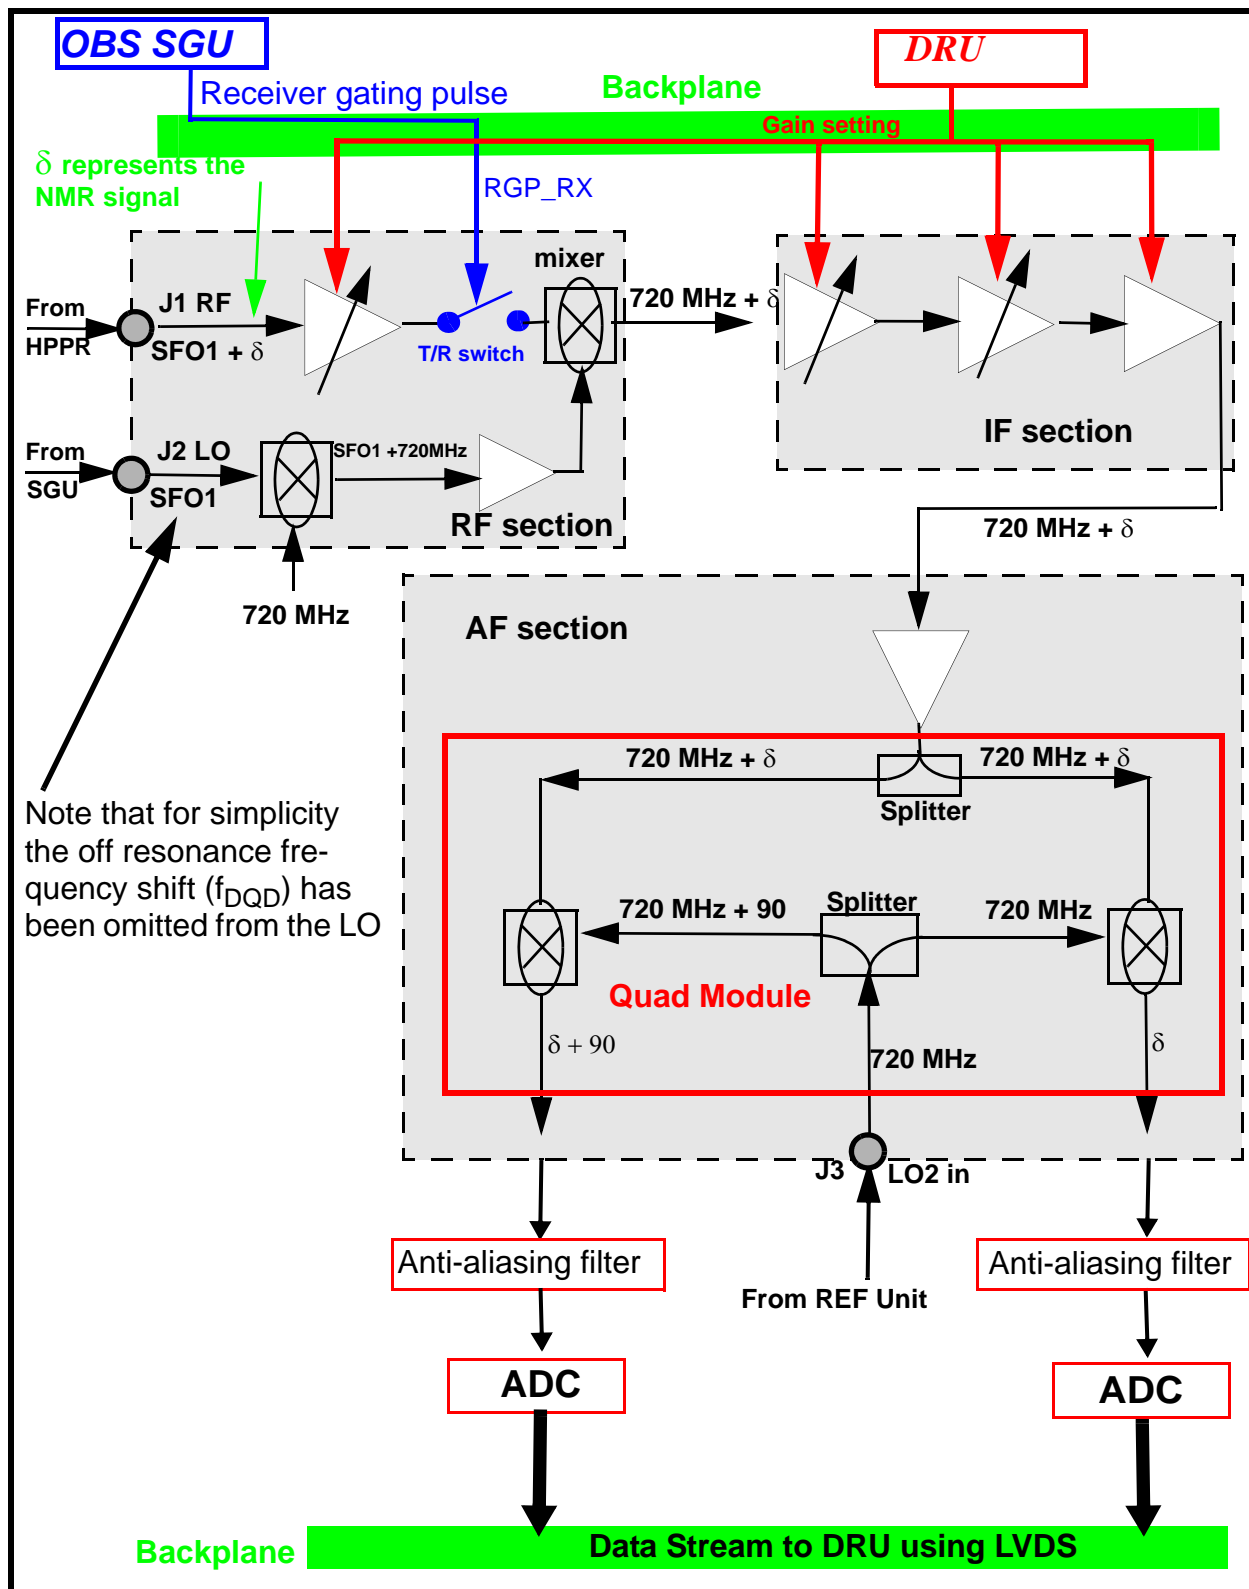

Figure 14.2. Simplified Schematic of the RXAD and RXAD-BB Receiver
At the final stage of the receiver the RF signal is split into two channels with a phase difference of 90 degrees, a standard method known as quadrature detection which is used to suppress mirrored signals. In order to ensure that the two channels provide identical amplification slight adjustment to the phase and gain of these channels may be necessary. This can be done via Unitool. The final outputs (channel A and channel B) are connected directly to the ADC. The two signals should be in the range of $\pm 5V$ and the amplitude should change with the value of RG. The only distinction between the two signals is a 90 degree phase shift and the subsequent spectra resulting from Fourier Transformation are often referred to as the 'real' and imaginary' spectra. Once digitized the two data streams are delivered onto the backplane where they are transmitted over a LVDS type link along the backplane to the DRU (see Figure 14.2).
This signal has a frequency of $SFO1 + f_{\text{dqd}}$ and is only present when the receiver is open. The signal which is generated by the Observe SGU is used to demodulate the NMR signal from the carrier frequency to yield a signal of 720 MHz plus δ where δ is the NMR signal (see Figure 14.2.)
2. adjust the gain, phase and baseline for the quad module (the quad module is a final critical element of the receiver which implements quadrature detection.(see Figure 14.2.)